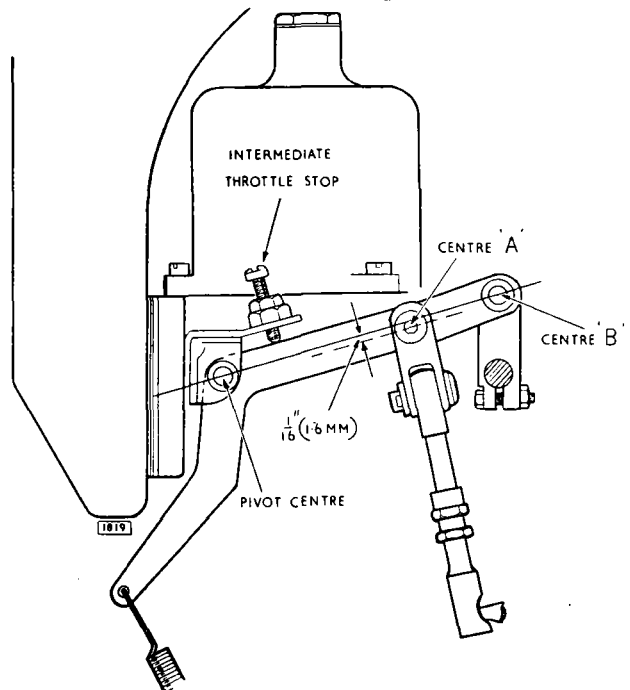

Fig. 19. Throttle control linkage setting.
- (ii) Unscrew intermediate throttle stop and push down on bell crank lever until centre "A" is $\frac{1}{16}$ " (1.6 mm.) below a line from centre "B" to pivot centre (Fig. 19) When in this position screw down stop on to intermediate throttle lever and lock in position. Lock lever to carburetter spindle.